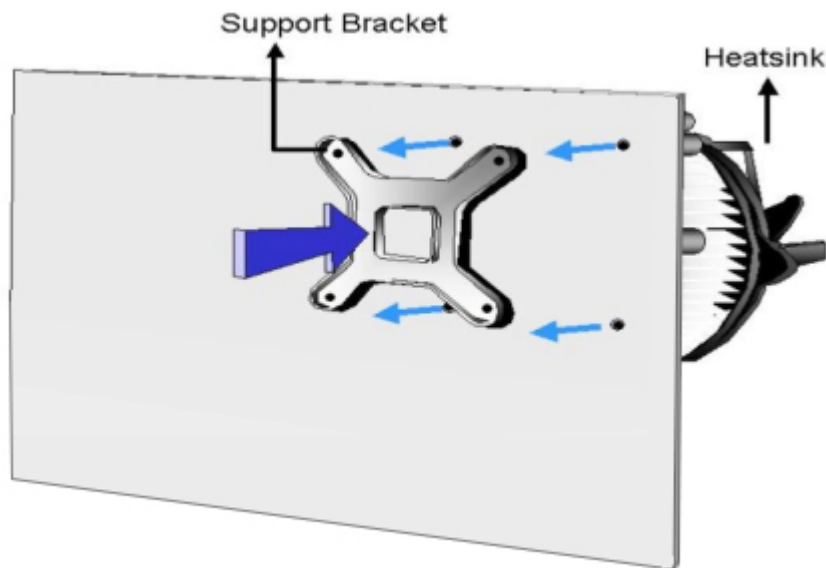

Figure 4-6: Securing the Heat sink to the PCIE-G41A2
- Step 4: Secure the cooling kit.** From the solder side of the PCB, align the support bracket to the screw threads on heat sink that were inserted through the PCB holes. (See **Figure 4-6**)